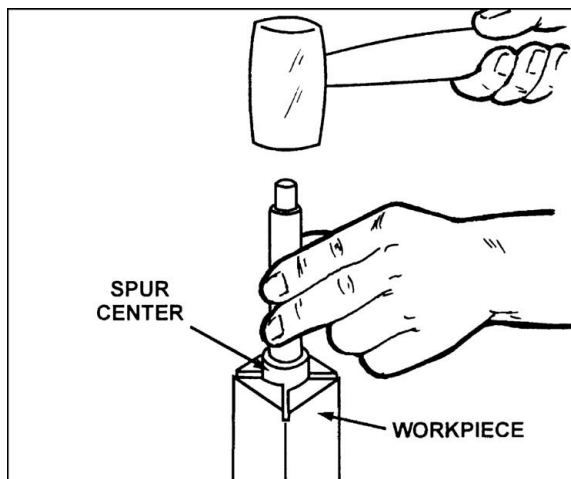

Figure 32
3. Drive the spur center about 1/4" into the workpiece, using a wood mallet or dead blow hammer as shown in Figure 32. Be careful that you do not split the workpiece. **Never use a steel face hammer and never drive the workpiece onto the spur center while it is mounted in the Lathe spindle.**